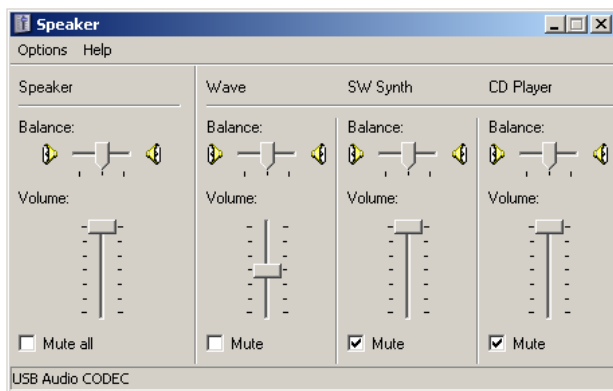

Figure 3 –Volume Control Panel
- The volume control panel will now open. Set the “Speaker” control (far left control) to 100% max volume, and set the “Wave” control to 50%. Note that the Speaker and Wave controls should NOT be muted. All other controls can be. Your volume control panel should now look similar to the one shown below in Figure 3: